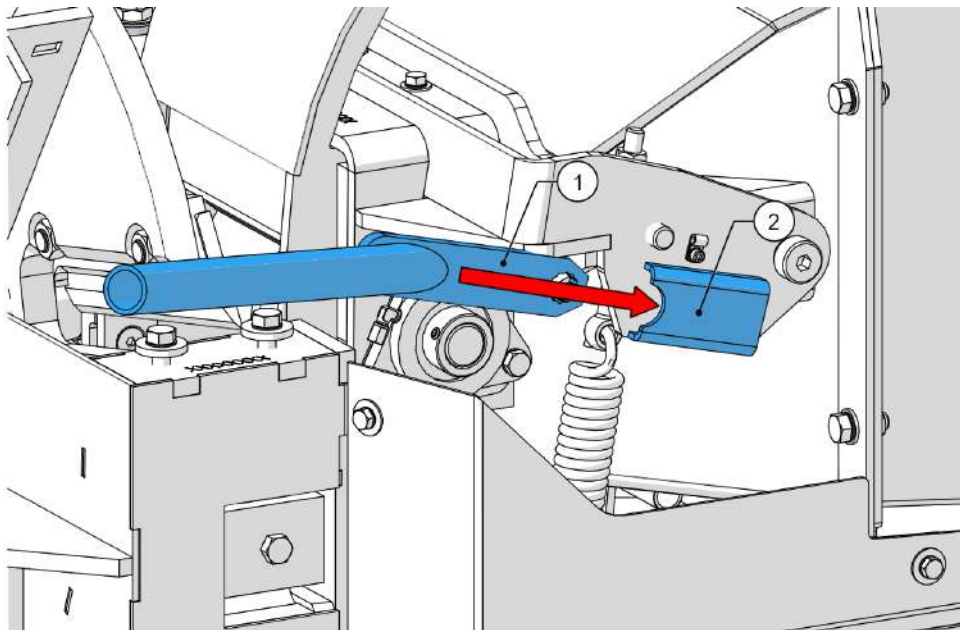

Figure 41 - Feed roller spring tension
11. Put the top feed roller lifting tool (1, Figure 41) into the slot (2, Figure 41).